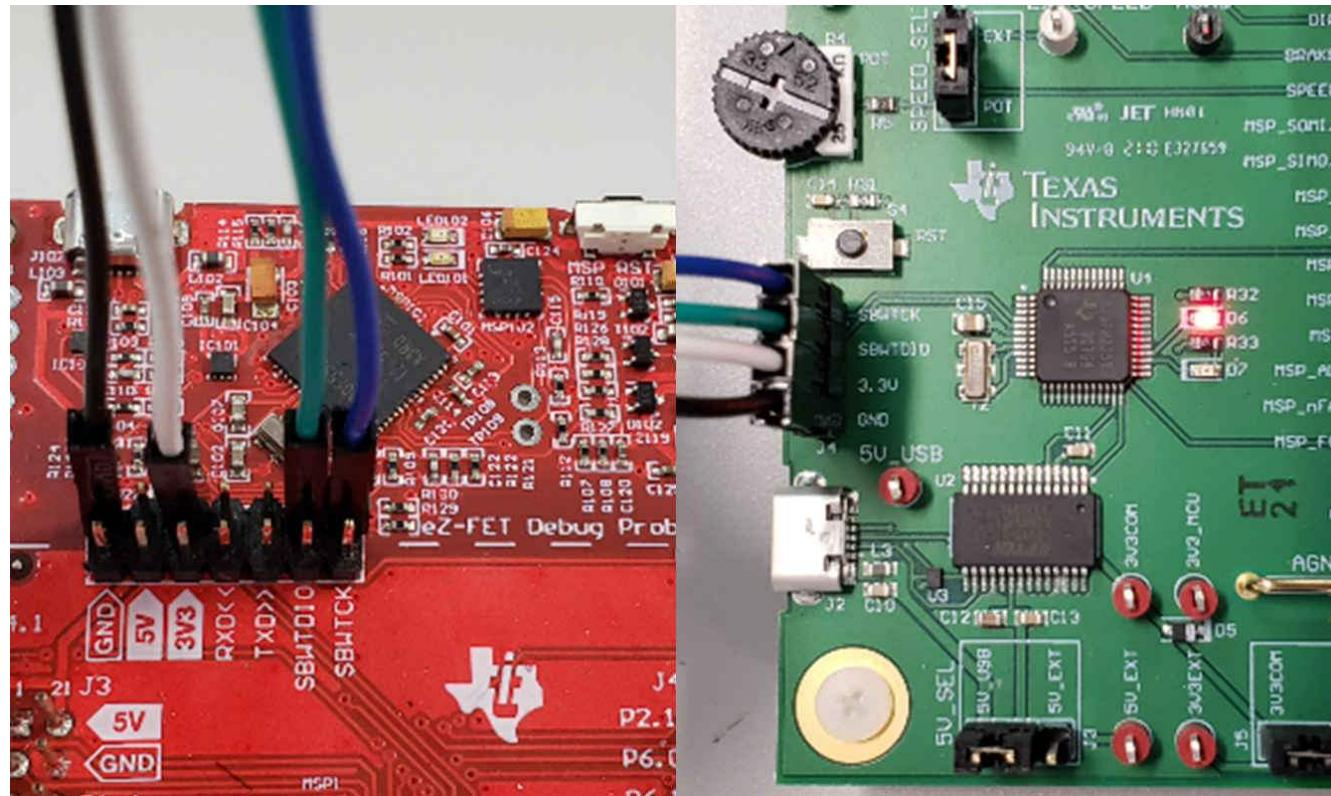

Figure 7-2. MSP430 LaunchPad™ eZ-FET Probe Connected to MCF8316AEVM
2. Connect the top pins on the eZ-FET side of the LaunchPad of the GND, 3V3, SBWTCK, and SBWTdio signals to their respective pins on J4 of the MCF8316AEVM as shown in Table 7-1 and Figure 7-2.